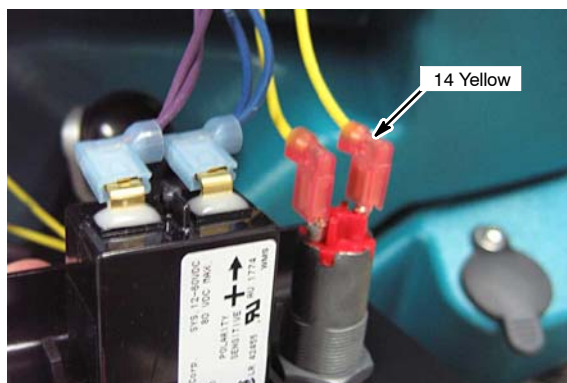

Fig. 23
7. Disconnect wire 14 yellow from key switch (Figure 23).